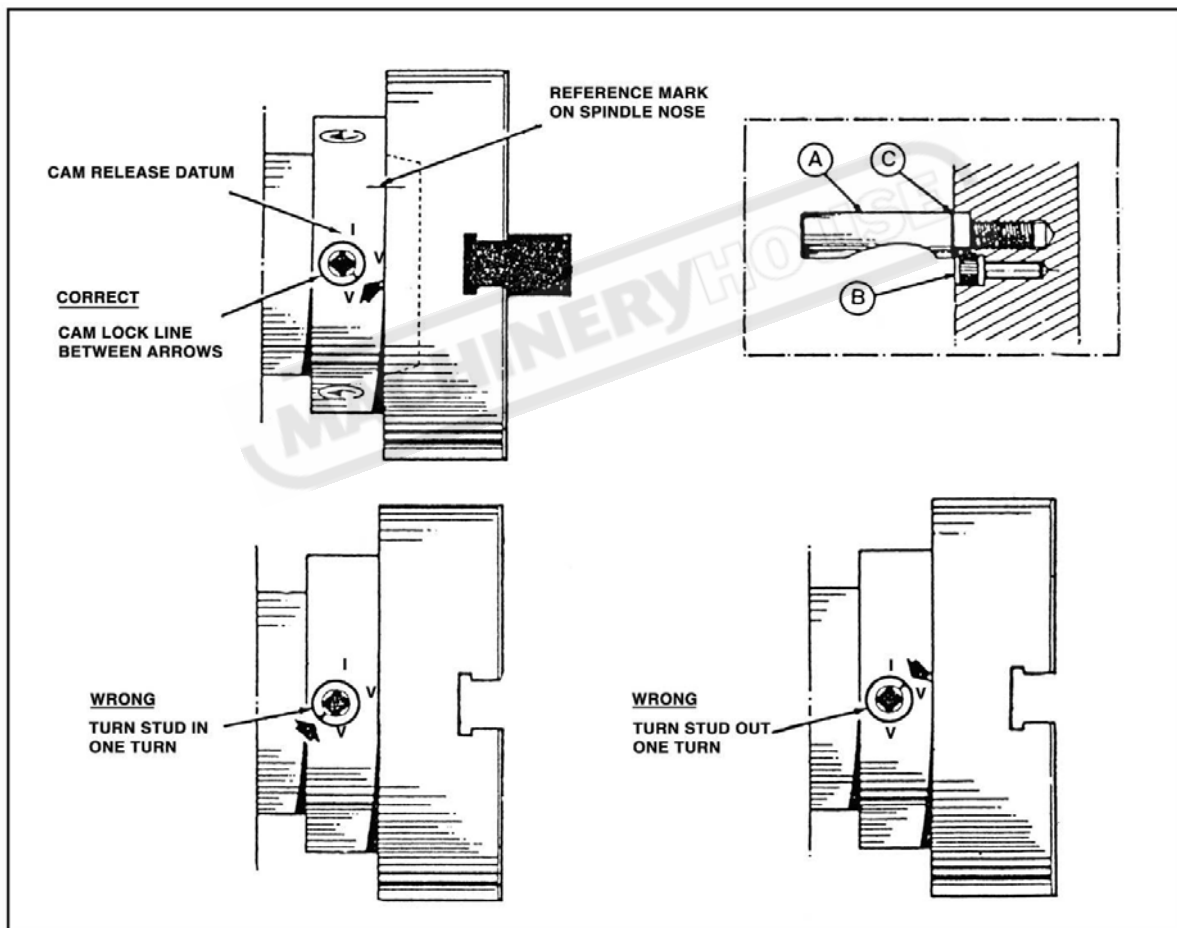

Fig.6
When fitting chucks or faceplates, ensure that the spindle and chuck tapers are scrupulously clean and that all cams lock in the correct positions; see Fig.6. It may be necessary when mounting a new chuck to re-set the camlock studs (A). To do this, remove the cap-head locking screws (B) and set each stud so that the scribed ring (C) is flush with the rear face of the chuck-with the slot lining up with the locking screw hole (see inset, Fig.6.)